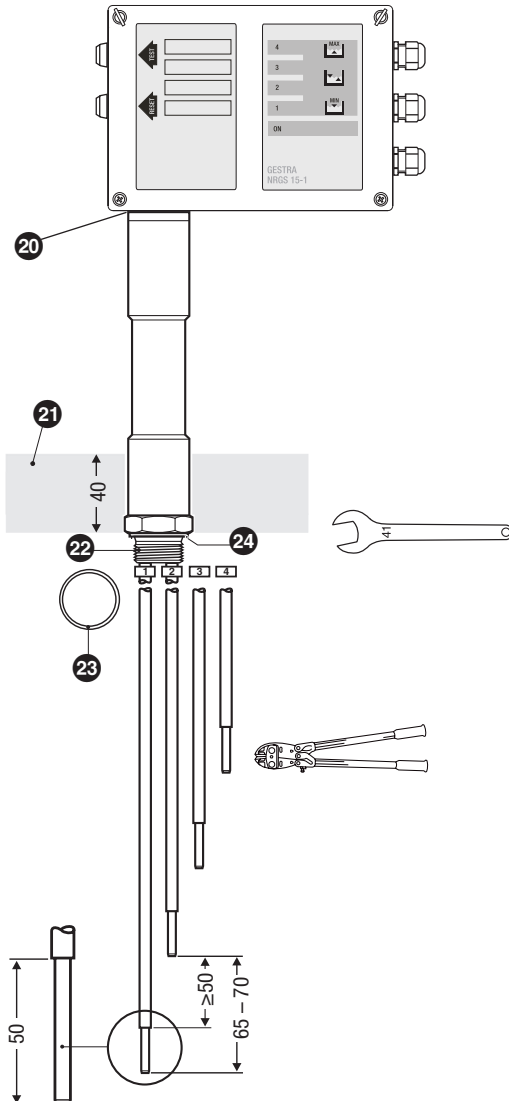

Fig. 5
- Note that the max. thermal insulation of the boiler is 40 mm (see **Fig. 5**).
10. Insulate the boiler at the area where the level switch is installed, making sure that the thickness of insulation does not exceed 40 mm (see **Fig. 5**).